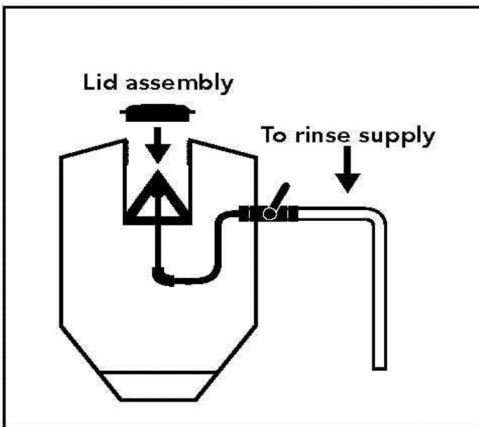

Fig. 5
14. Connect rinse supply. Installation complete! (Fig. 5)